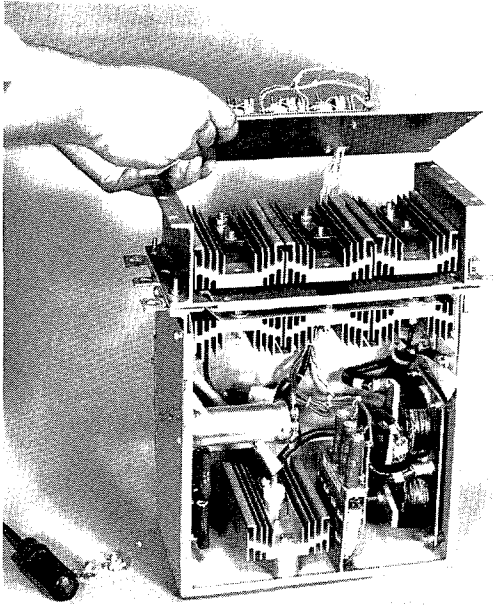

FIGURE 14
5. Fold back the cover, thereby, exposing the Press-Pak SCR heatsink clamps. The remaining wire harnesses should support the front insulation cover while removing and replacing the defective Press-Pak SCR cell. See Figure 14.